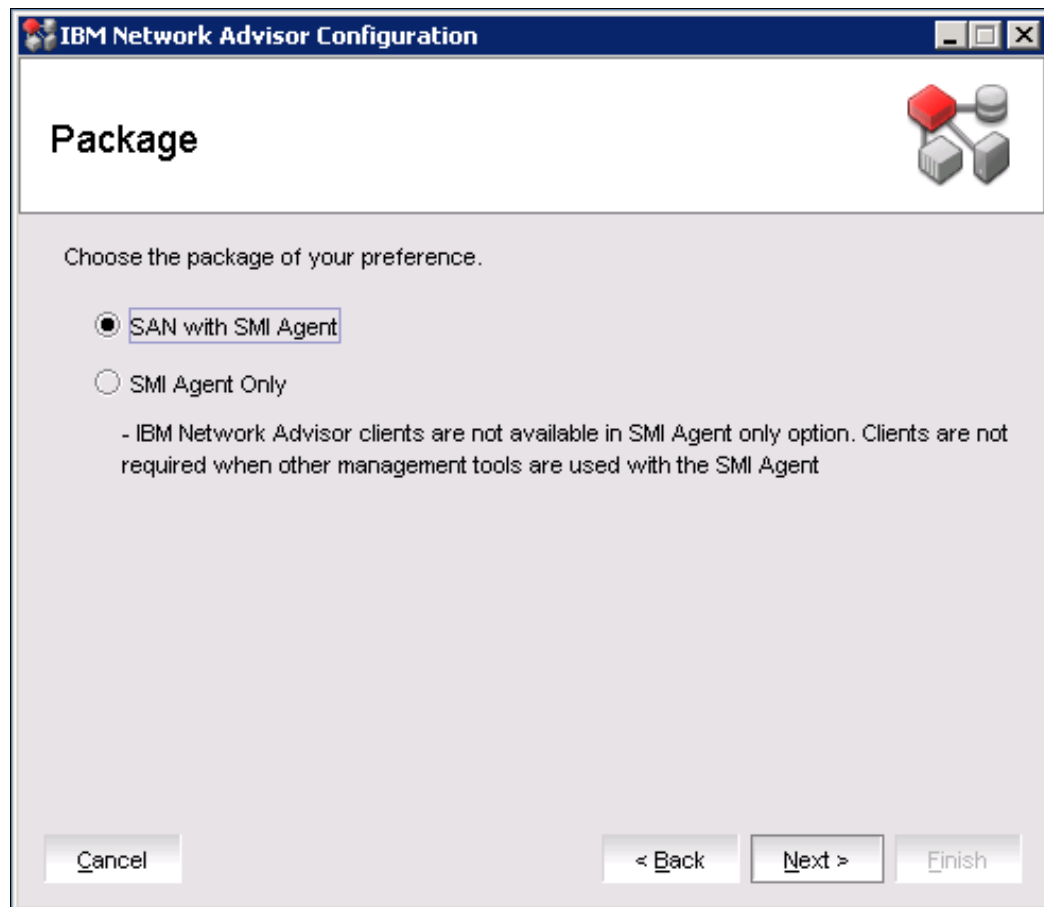

Figure 3-9 Package window
9. The Package window opens and prompts you to choose a package. IBM Network Advisor clients are not available in SMI Agent, so you must select **SAN with SMI Agent**, as shown in Figure 3-9. Click **Next**.